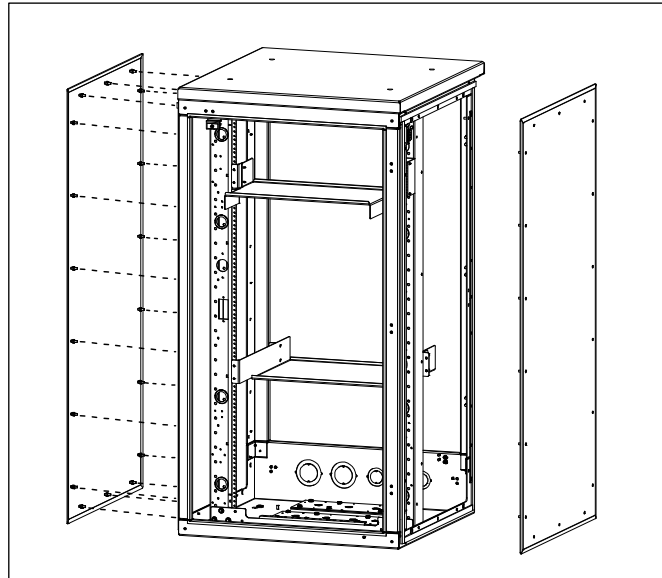

Figure 11 Install Side Panels
5. Install the side panels onto the sides of the bay. The side panels have studs on the inside that align with holes on the sides of the bay. Secure in place using the 1/4-20 nuts included with the kit (Figure 11).